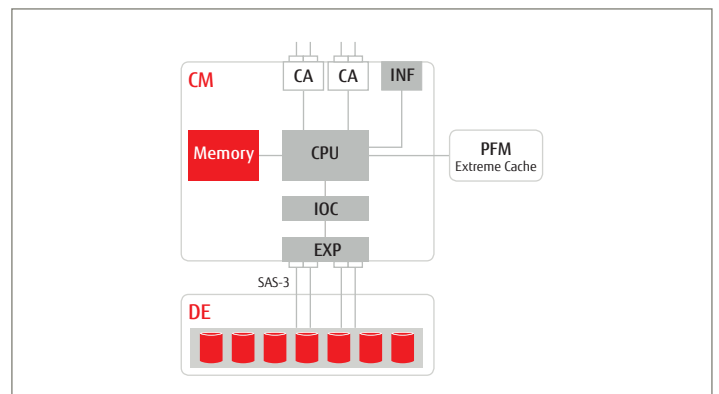

Figure 2
Figure 2 shows the schematic architecture of an ETERNUS DX8000 S3 Controller Module (CM). The basic functional blocks are the Intel Xeon processor which runs the firmware-based operating system, DRAM System Memory including the Data Cache and the Channel Adapters (CA) which realize the connection to the hosts. Each Controller Module connects to a maximum number of 16 Drive Enclosures (DE). The Drive Enclosures are connected via SAS-3 redundant paths to the SAS Expanders (EXP) in the Controller Modules. The four-ported PCIe 3.0 Interface (INF) realizes the high-bandwidth connectivity to the Front-end Routers.